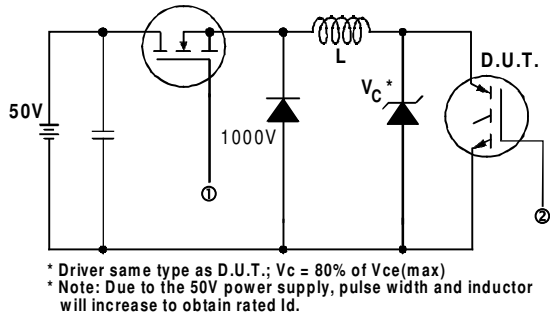

Fig. 13a - Clamped Inductive Load Test Circuit
- ② $V_{CC} = 80\%(V_{CES})$, $V_{GE} = 20V$, $L = 10\mu H$, $R_G = 23\Omega$, (See fig. 13a)
- ③ Repetitive rating; pulse width limited by maximum junction temperature.
- ④ Pulse width $\leq 80\mu s$; duty factor $\leq 0.1\%$.
- ⑤ Pulse width $5.0\mu s$, single shot.
- ⑥ When mounted on 1" square PCB (FR-4 or G-10 Material). For recommended footprint and soldering techniques refer to application note #AN-994.